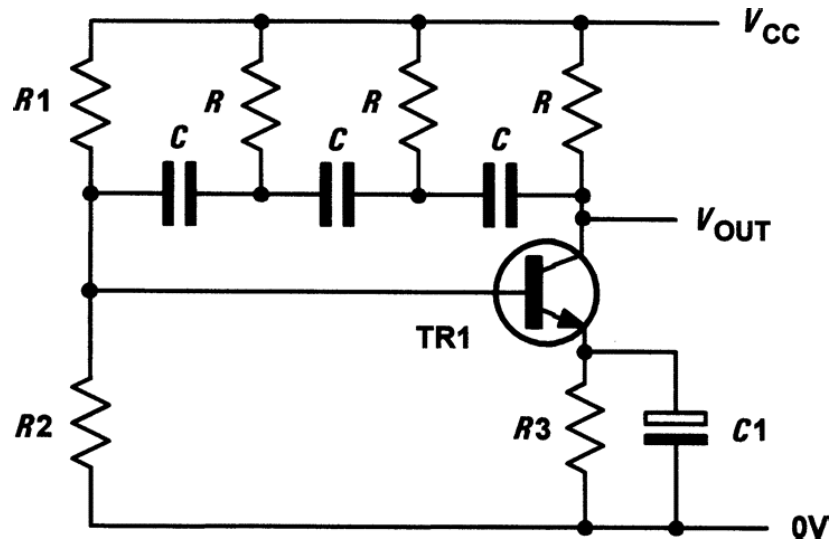

Figure 1.51 Sine wave oscillator based on a three stage C–R ladder network
- A simple phase-shift oscillator based on a three stage C–R ladder network is shown in Fig. 1.51.